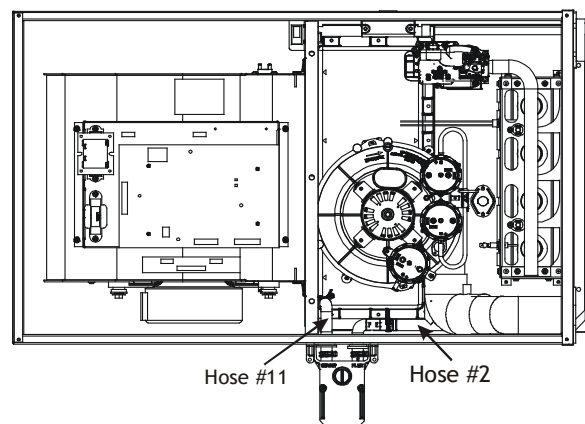

FIGURE 26
1. Install the 45 degree pipe / hose drain coupling from the outside of the cabinet (barbed end goes in the cabinet) through the hole in the left side of the cabinet and secure with two field supplied #8 self-tapping screws (see Figure 26).